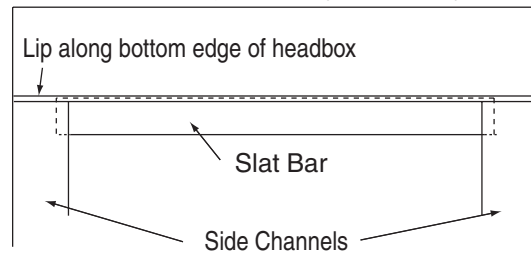

Figure 10
⑩ Adjust limit switches so the fabric can be completely drawn or retracted without the slat bar leading edge going beyond the plastic fabric guides located at the upper end of each side channel (see Fig. 10). Limit switches are pre-set, but some field adjustment may be necessary.